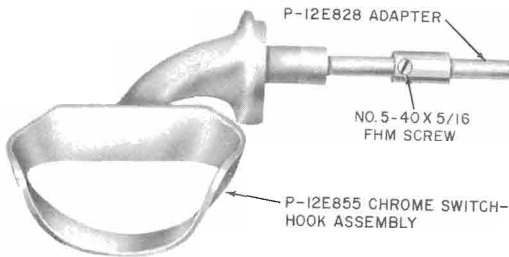

Fig. 11—Two-Piece Switchhook Assembly
2.32 Later models of coin collectors have 2-piece, chrome-plates P-12E855 switchhook assemblies (Fig. 11).